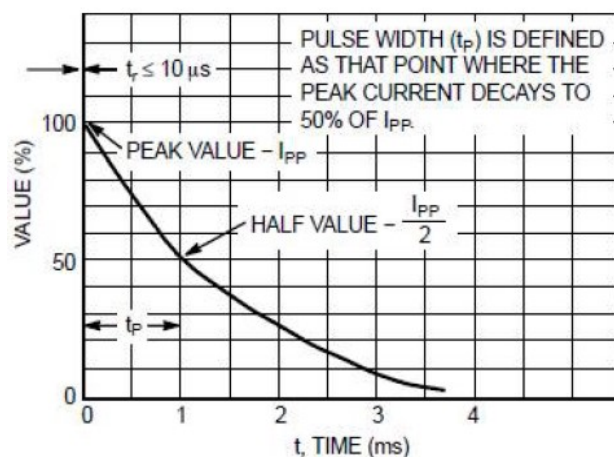
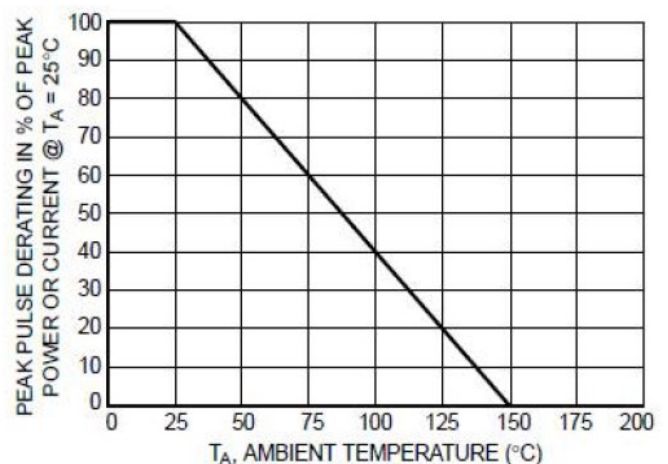

Figure 5. Pulse Waveform
Figure 6. Pulse Derating Curve
- Peak Power 24 or 40 Watts @ 1.0ms(Unidirectional), per Figure 5 Waveform
1, Non-repetitive current pulse per Figure 5 and derate above TA=25°C per Figure 6;
6, Surge current waveform per Figure 5 and derate Figure 6